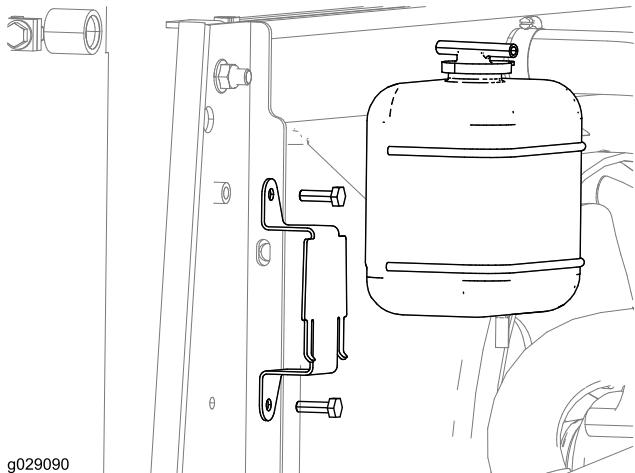

Figure 3
5. Remove the radiator-overflow tank and bracket from the machine as shown in Figure 3.